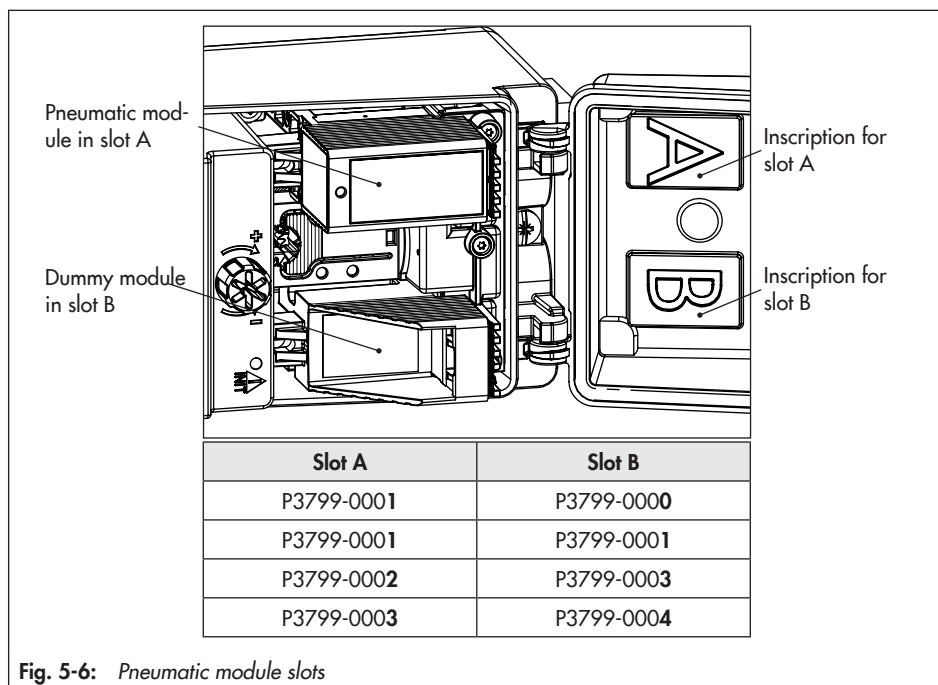

Fig. 5-6: *Pneumatic module slots*
Two slots are available for the pneumatic modules in the positioner (see Fig. 5-6).
1. Observe permissible combinations of pneumatic modules specified in Fig. 5-6.